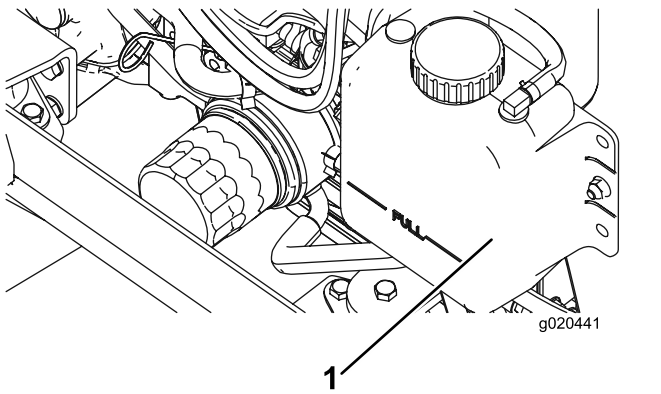

Figure 94
1. Carefully remove the radiator cap and expansion-tank cap (Figure 94).